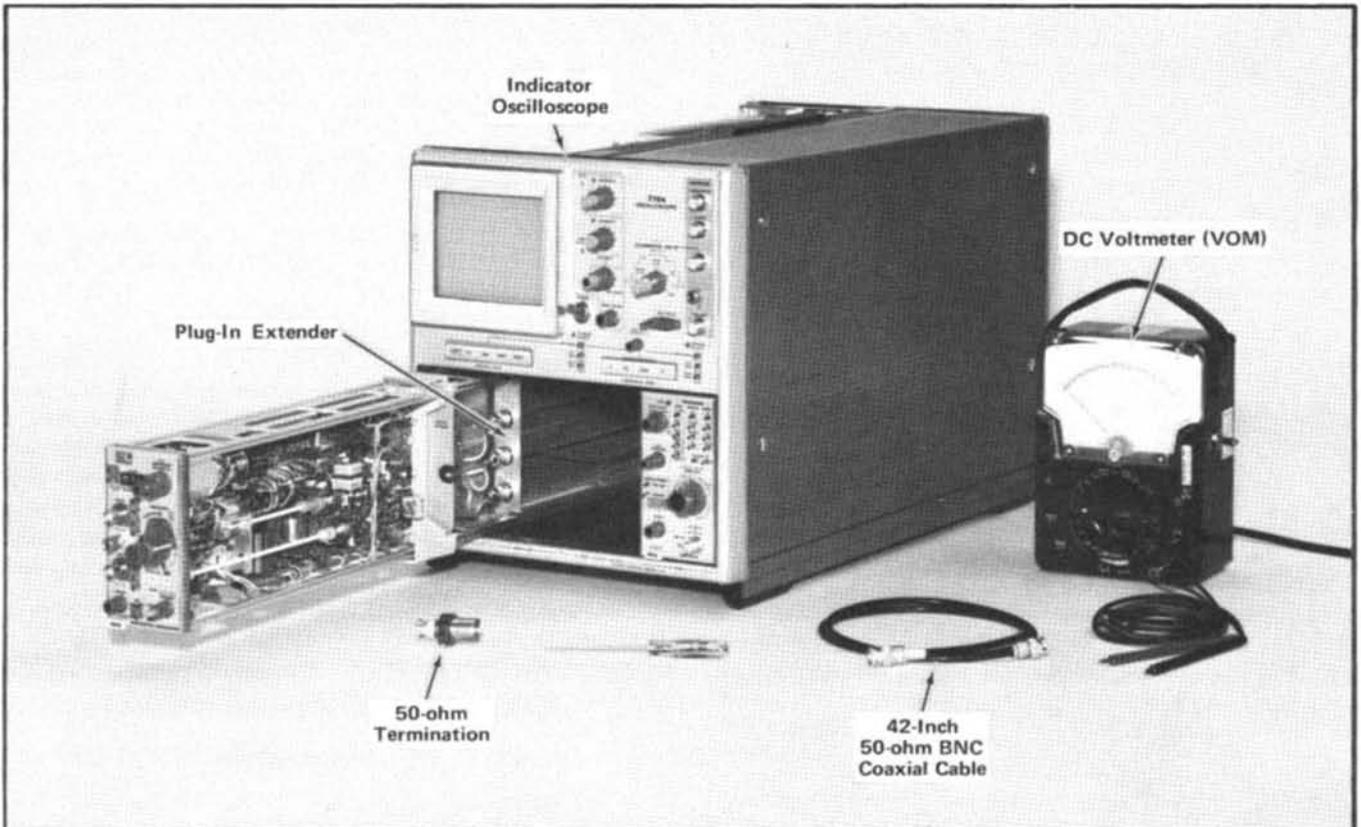

Fig. 5-2. Equipment required when using steps 1 through 9 as a calibration procedure. (The performance check begins with step 8. See text.)
- a. Test equipment setup is shown in Fig. 5-2.